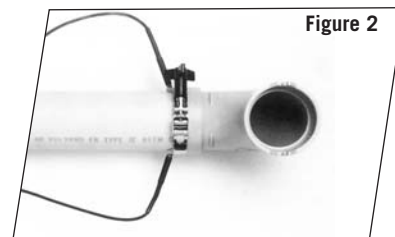

Figure 2
9. Following the "CONNECT OUTPUT LEAD" instruction on the display, connect the output leads (Figure 2). If required, connect link cable for multiple fusions.